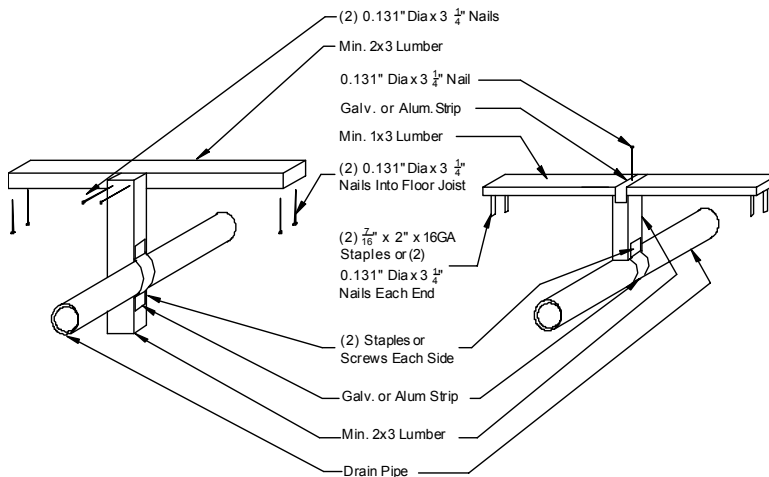

Figure 75. DWV pipe support options
5. **Install supports.** Install permanent drain line supports at a distance of four feet o.c. or less (see **Figure 72**, **Figure 74**, and **Figure 75**).